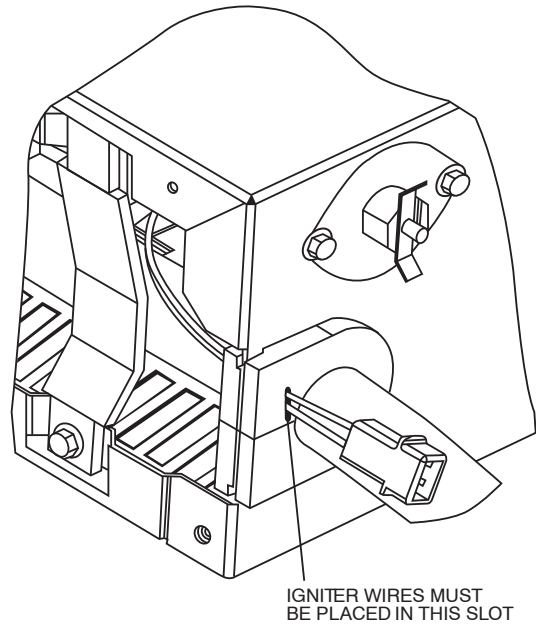

Fig. 7 - Igniter Wire Placement
- Reinsert the igniter wires in the slot in the manifold grommet, dressing the wires to ensure there is no tension on the igniter itself. (See Fig. 7.)